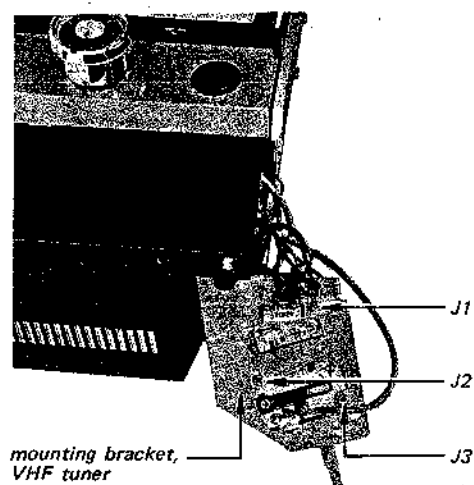

Fig. 2-14.
6. Remove the three screws labeled J1 - J3 in Fig. 2-14.